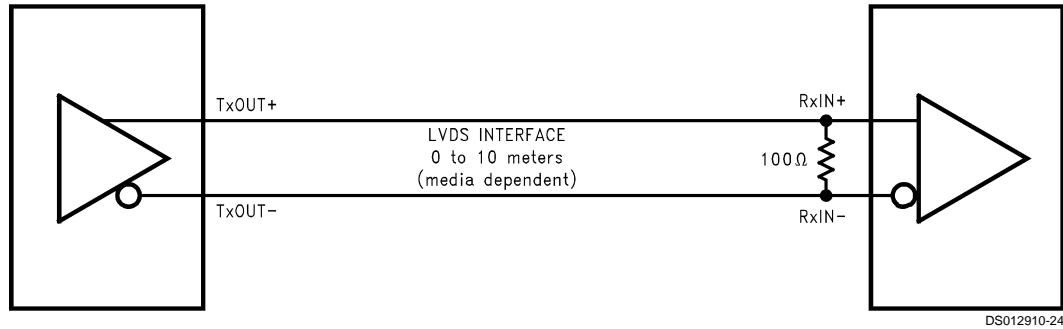

FIGURE 19. LVDS Serialized Link Termination
**TERMINATION:** Use of current mode drivers requires a terminating resistor across the receiver inputs. The CHANNEL LINK chipset will normally require a single 100Ω resistor between the true and complement lines on each differential pair of the receiver input. The actual value of the termination resistor should be selected to match the differential mode characteristic impedance (90Ω to 120Ω typical) of the cable. *Figure 19* shows an example. No additional pull-up or pull-down resistors are necessary as with some other differential